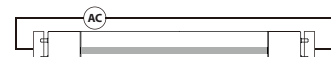

Figure 1. - Double-Ended connection
6. IKIO LED T8 lamps are designed for double-ended connections (Figure 1).